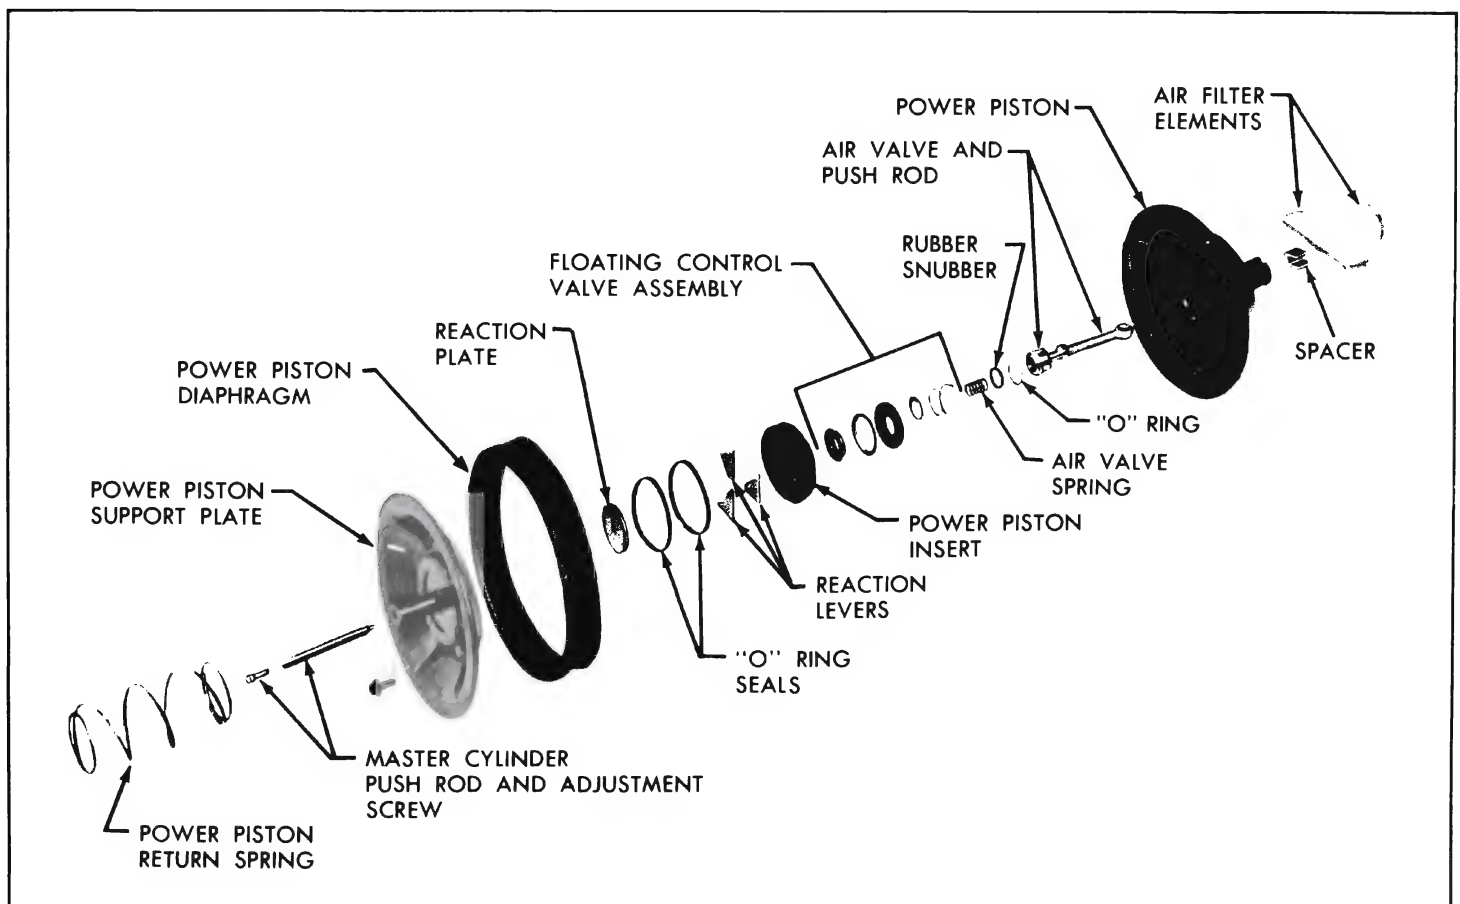

Figure 9-22—Power Piston Assembly - Exploded View
11. Assemble the two (2) power piston insert "O" ring seals in the two (2) grooves in the O.D. of the power piston insert. See Figure 9-22. Press the insert to seat in the power piston.